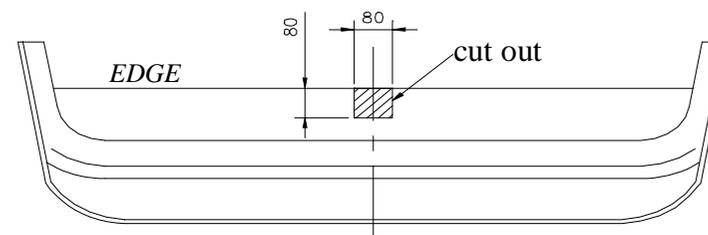

Fig. 2
2. For models till 1999; cut a hole, on the lower edge of the bowl of the bumper as shown in the fig. 2. For models from year 2000, you must check dimensions of cut out fragment.
3. Apply the main bar (pos. 1) to the chassis members of the car and twist in the designed places by the manufacturer, with screws M10x1,25x30mm (pos. 7).
4. Through hole of the towbar (pos. C) and original tow-eye, fix by M10x75mm bolts (pos. 6) using cut washers (pos. 4) and distance sleeves (pos. 14).
6. Fix body of the automat (pos. 8) and the socket plate (pos. 3) using bolts M12x25mm (pos. 5) from accessories. Place tow-ball (pos. 2) according to supplied instruction.